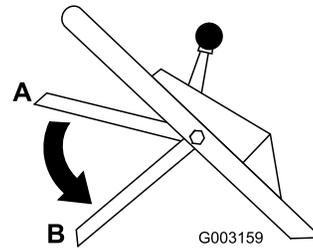

Figure 17
10. Release the blade control bar; refer to position B in Figure 17. You should hear a “bang.” The blade should stop in 3 seconds.
2. Move the blade control bar down to its lowest position (Position B in Figure 17).